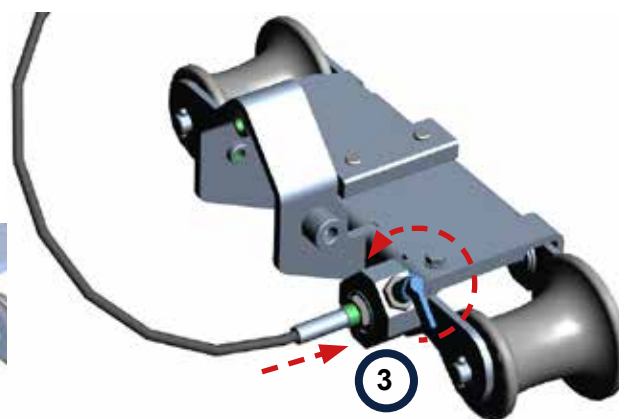

Figure 76.
Emergency handles are located on the machine, overview figure 76.
**Lifting handles see "Figure 76."**